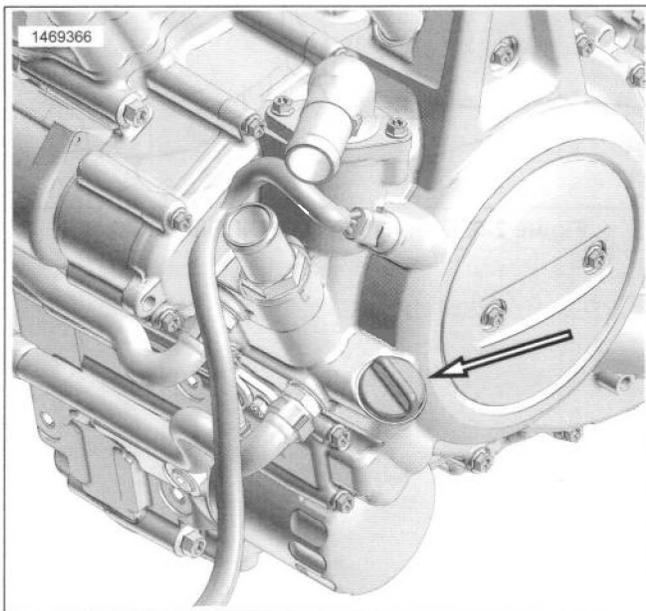

Figure 2-2. Engine Oil Filler Plug/Dipstick
- a. See Figure 2-2. Remove filler plug/dipstick.